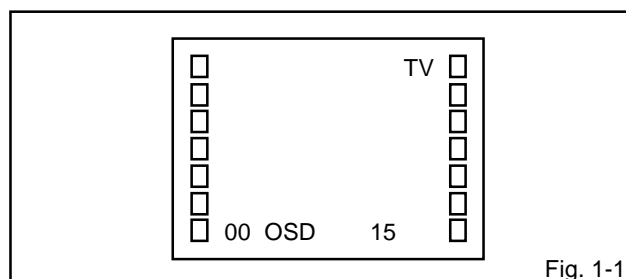

Fig. 1-1
Press the VOL. DOWN button on the set and the Channel button (9) on the remote control for more than 1 second to appear the adjustment mode on the screen as shown in Fig. 1-1.
3. Activate the adjustment mode display of Fig. 1-1 and press the channel button (02) on the remote control to select "RF AGC".
3. Activate the adjustment mode display of Fig. 1-1 and press the channel button (01) on the remote control to select "CUT OFF".